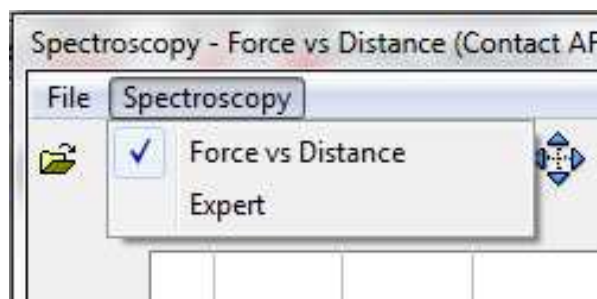

Figure 14-2 Spectroscopy window showing Force vs Distance selected
- 3 In the Spectroscopy window, confirm **Force vs Distance** for the plot type (Figure 14-2).